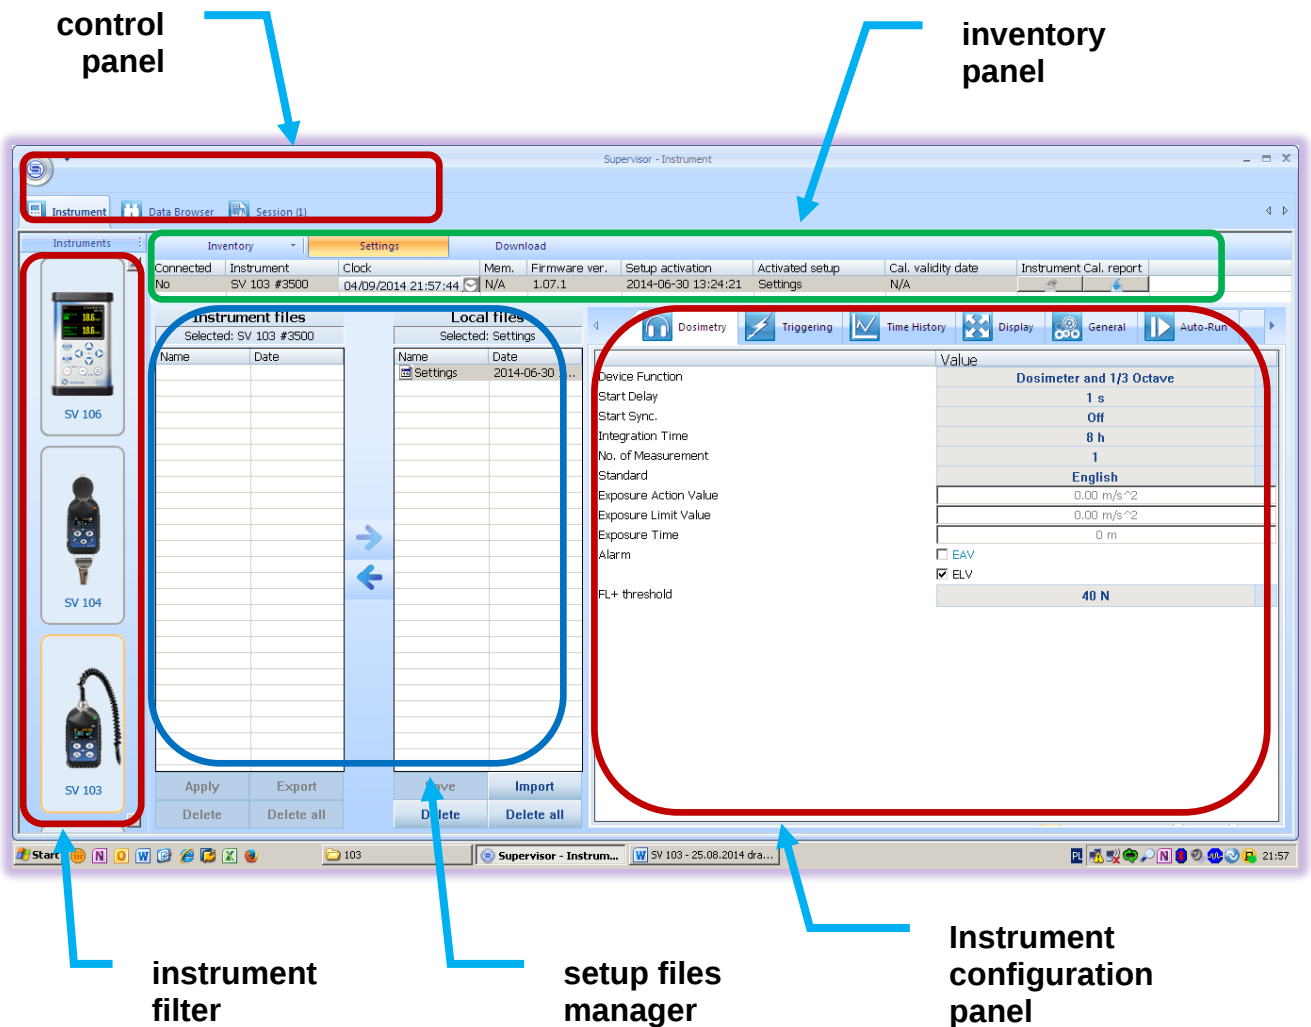

Figure 5-2 Supervisor main window
3. Select the just copied **"Settings"** with a click: this will display quite a few configuration tabs on the right side so called Instrument configuration panel of the main **Supervisor** window (Figure 5-2).